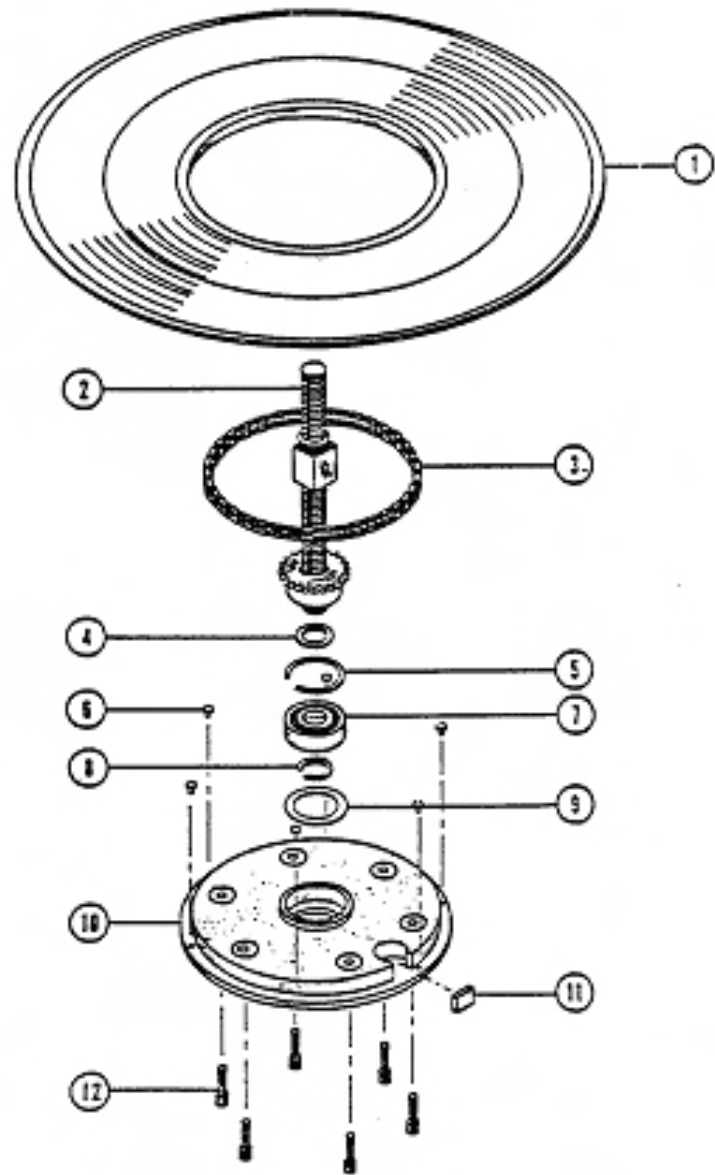

Figure 1-3. Floor plate assembly.
(1) Lubricate the screw jack and nut, located in the floor plate assembly. Refer to figure 1-3, #2.
(2) Lubricate the lift chain. Refer to figure 1-3, #3.